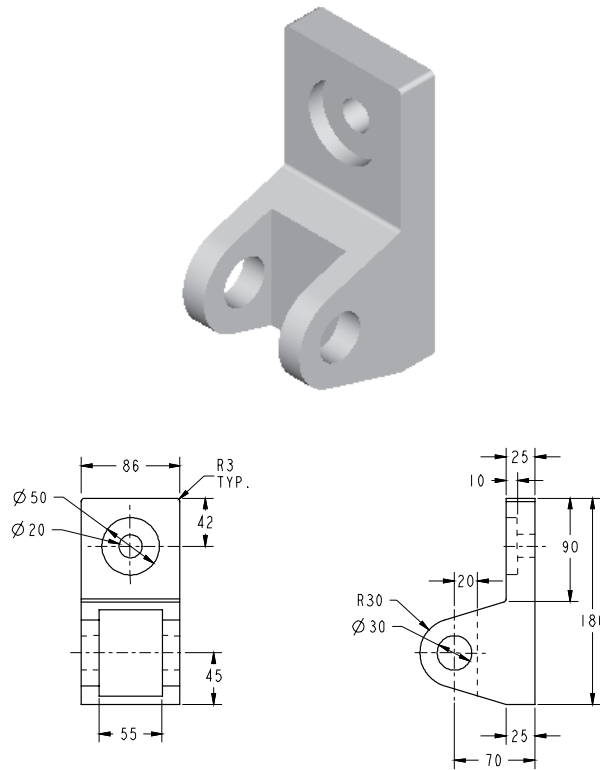

Figure 5-60 Isometric view, front view and the right-side view of the model
In this tutorial you will create the model shown in Figure 5-60. The solid model, dimensions, the front, and the right-side view are also shown in this figure. **(Expected time: 45 min)**
- a. First examine the model and then determine the number of features in it. The model is composed of four features; one is the base feature, one cut feature, one counterbore hole on the front planar surface of the base feature, and one round feature, see Figure 5-60.
3. In the **Hole Dimension** area, enter the dimensions for the hole as shown in Figure 5-60. The other options in this area will be accepted as default.